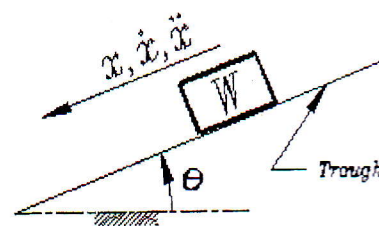

Fig.2
- A) Date: Inclined conveyor trough (Fig.2) conveys load weight W.